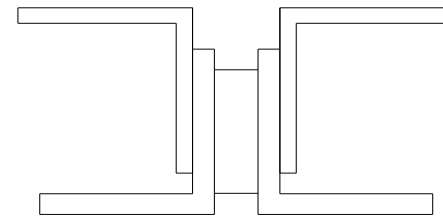

Fig. 2
- Use 2 - L2x2x1/4 angles w/ a 1/2" spacer plate as shown in Fig. 2.